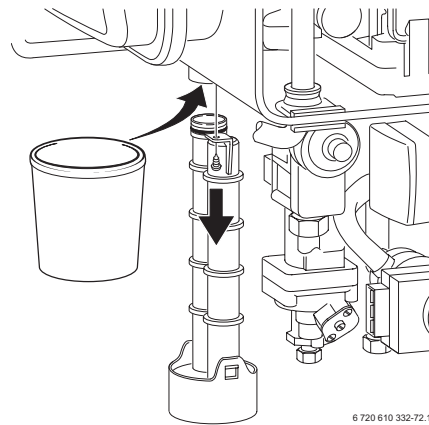

Fig. 50
- ▶ Unscrew condensation trap and place suitable container underneath. Refer to fig. 50.
In order to prevent spillage of condensate, the condensation trap should be completely removed, (see page 33, fig. 50).